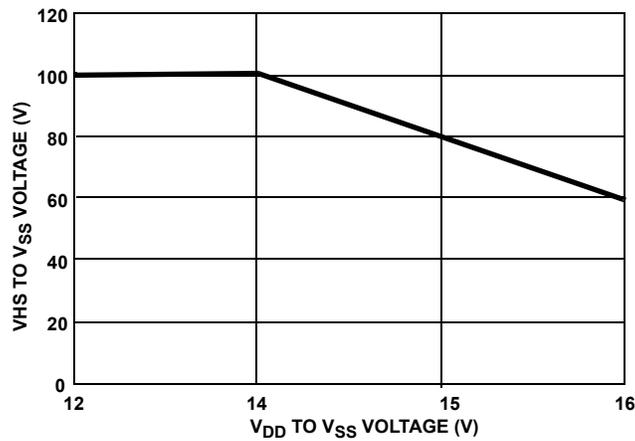

FIGURE 16. VHS VOLTAGE vs VDD VOLTAGE
- The HIP2101 is capable of derated operation at supply voltages exceeding 14V. Figure 16 shows the high-side voltage derating curve for this mode of operation.